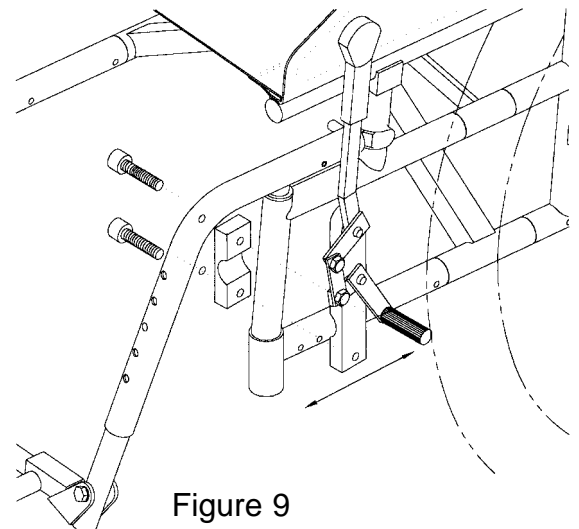

Figure 9
- 9 The brakes will also need to be repositioned if you have selected an alternative wheel position (see FIG 9). Loosen the two socket head cap screws. Position the brake assembly on the wheelchair frame ensuring that the brake is effective. Finally tighten the two socket head cap screws in the clamp to 13.55-16.26 Nm (10-12 lbs/fit).